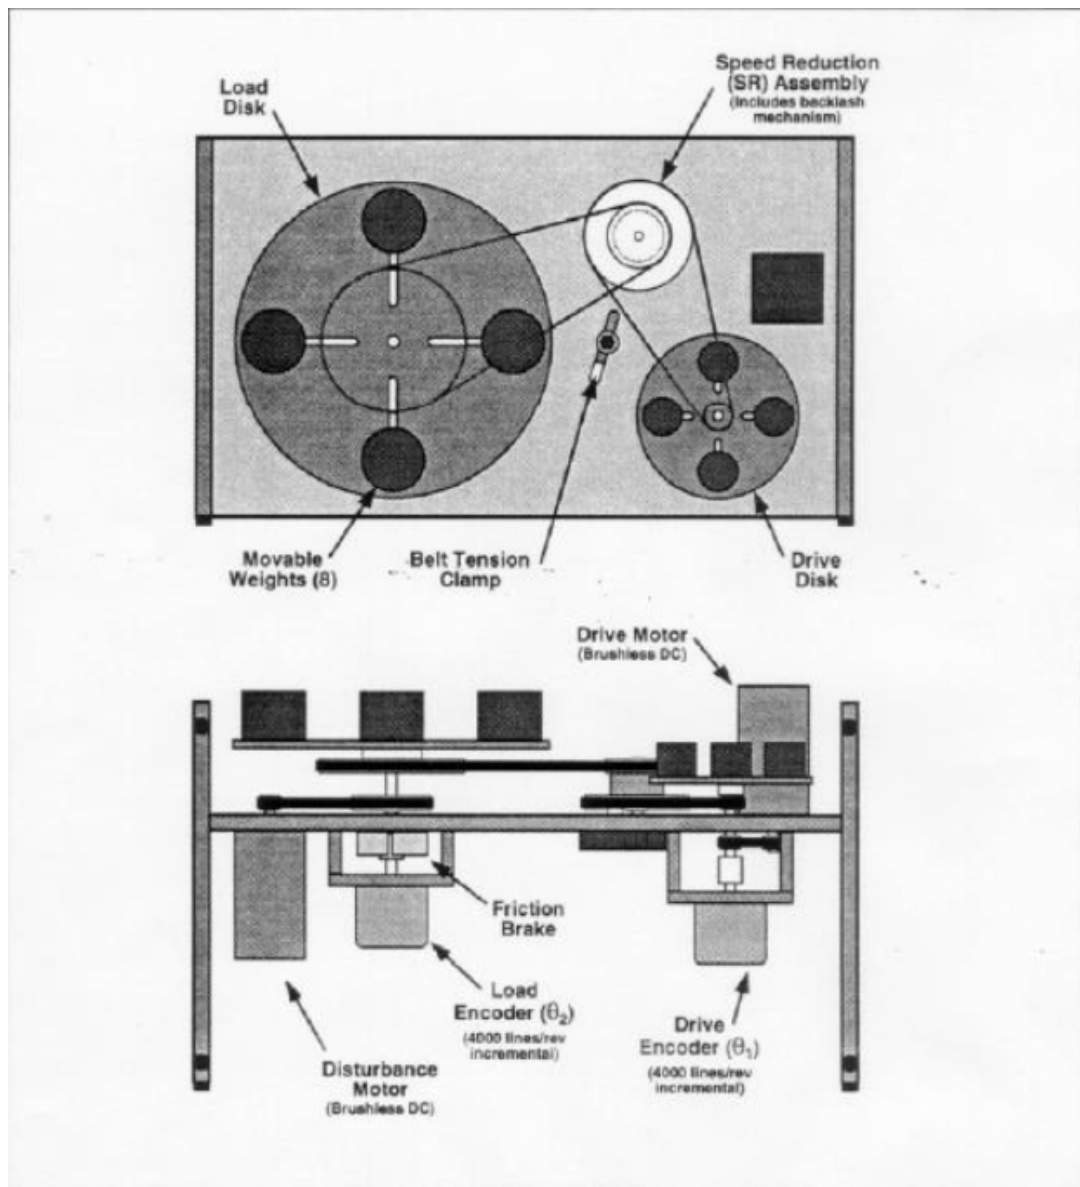

Figure 1. mulator Apparatus
The ECP plant, shown in Figure 1 is designed to emulate a broad range of typical servo control applications. The Model 220 apparatus consists of a drive motor (servo actuator) which is coupled via a timing belt to a drive disk with variable inertia. Another timing belt connects the drive disk to the speed reduction (SR) assembly while a third belt completes the drive train to the load disk. The load and drive disks have variable inertia which may be adjusted by moving (or removing) brass weights. Speed reduction is adjusted by interchangeable belt pulleys in the SR assembly. Backlash may be introduced through a mechanism incorporated in the SR assembly, and flexibility may be introduced by an elastic belt between the SR assembly and the drive disk. The drive disk moves one-for-one with the drive motor so that its inertia may be thought of as being collocated with the motor. The load inertia however will rotate at a different speed than the drive motor due to the speed reduction. Also, drive flexibility and/or backlash may exist between the load and the drive motor and hence its inertia is considered to be non-collocated with the motors. All rotating shafts of the mechanism are supported by precision ball bearings. Needle bearings in the SR assembly provide low friction backlash motion (when backlash is desired).